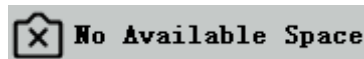

Figure 13-2
2. When pressing the snap button, recording videos, and taking photos at a fixed time, *No Available Space* will be displayed, as shown in Figure 13-2. Please sort out the SD card space on the computer before inserting the camera for use.